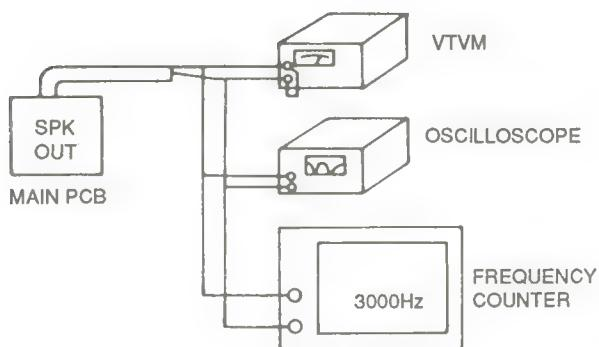
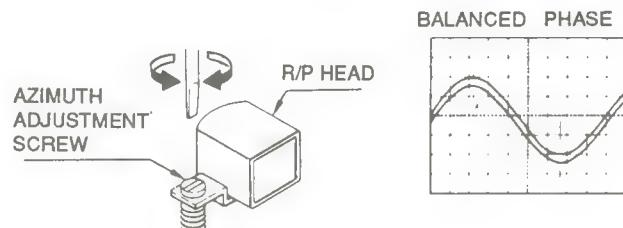
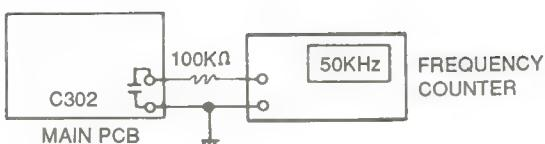

Fig. 7
Fig. 8
Fig. 9
(1) HEAD AZIMUTH ADJUSTMENT
- ① Connect the equipments as shown in the Fig. 7.
- ② Insert a test tape (8KHz : MTT-113CN) into deck.
- ③ Press PLAY (▶) and set VOLUME at approximately 50mW (4Ω).
- ④ Adjust the azimuth adjustment screw for the maximum and balanced channel output (Fig. 8).
- ⑤ Secure the adjustment screw with glue after adjustment is complete.
(2) RECORDING BIAS ADJUSTMENT
- ① Connect C302 of Main PCB to the Frequency Counter. (Fig. 9)
- ② Press RECORD (●) and set FM-MODE switch to "MONO".
- ③ Adjust T301 so that the Frequency Counter reads 50KHz.
(3) TAPE SPEED ADJUSTMENT
- ② Insert a test tape (3KHz : MTT-111) into deck.